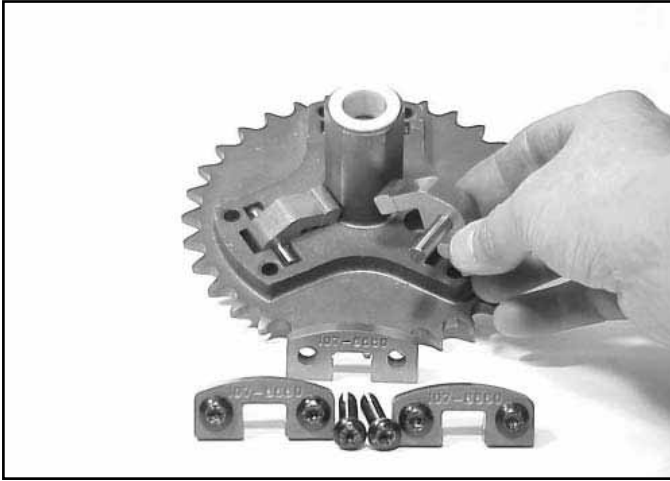
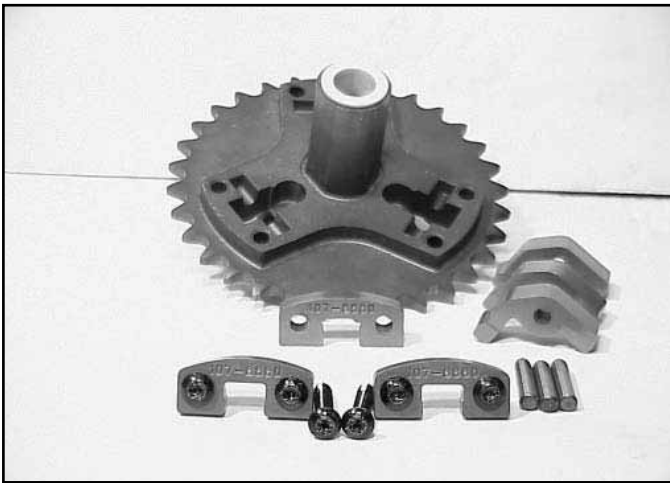

Fig 188
Fig 189
10. Remove pawl pins and pawls with from the 32-tooth gear (Fig. 188 and Fig. 189).